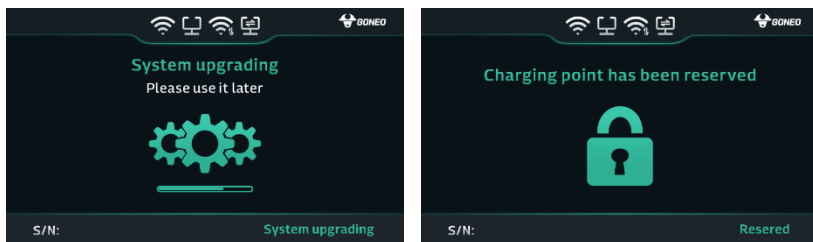

Fig. 6-5. Display of system upgrade
- System upgrading and reservation status are shown in Fig. 6-5.